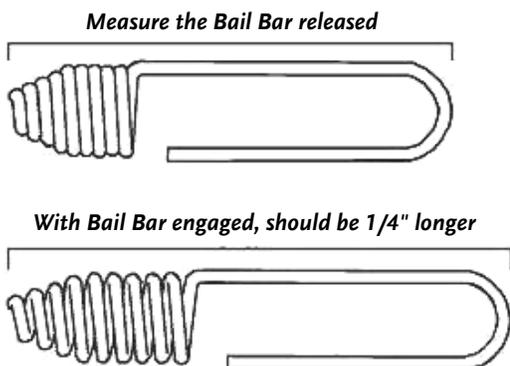

Figure 47
**NOTE:** To check your adjustment, measure the Spring with the Bail Bar disengaged. Then measure it with the Bail Bar engaged. There should be a 1/4" extension in the Spring when the Bail Bar is engaged (**Figure 47**). Adjust the Nuts on the Bracket as needed to get the correct measurements.